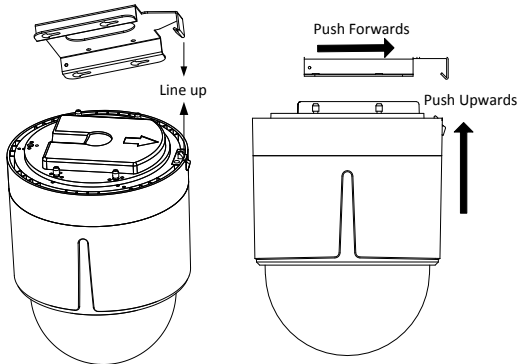

Figure 2-20 Attach the Back Box to the Mounting Base
- 9). Push the speed dome upwards and then forwards in the direction of the arrow. When the speed dome is placed in position, the spring will automatically snap into the lock clip firmly as shown in Figure 2-20.